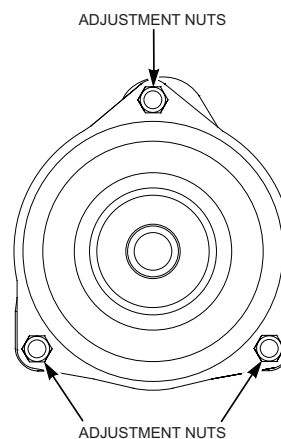

Figure 6-8. Clutch Adjustment Bolts
- Tighten or loosen the adjusting bolt as needed to achieve the 0.015" air gap. See Figure 6-8.